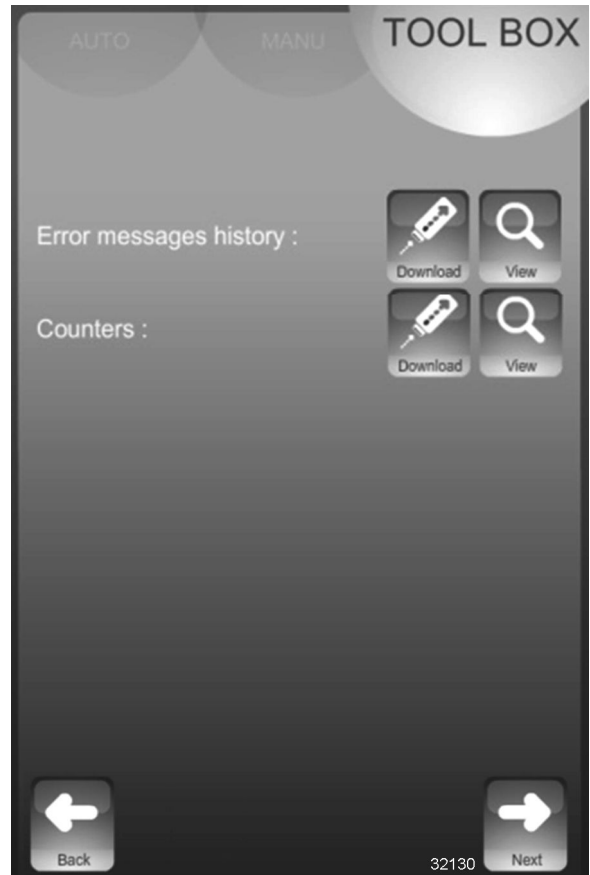

Fig. 137
4. Select **Next** icon to activate **Error History / Counters** screen (Fig. 137).